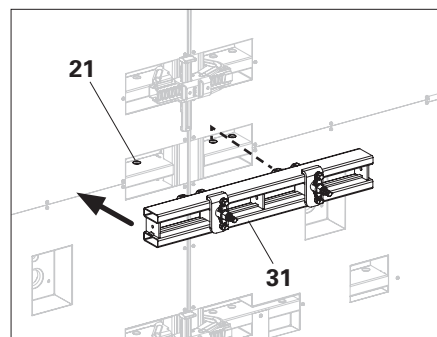

Fig. A3.09
2. Insert hooks (31.1) in the connecting holes (21) of the panel. (Fig. A3.09)